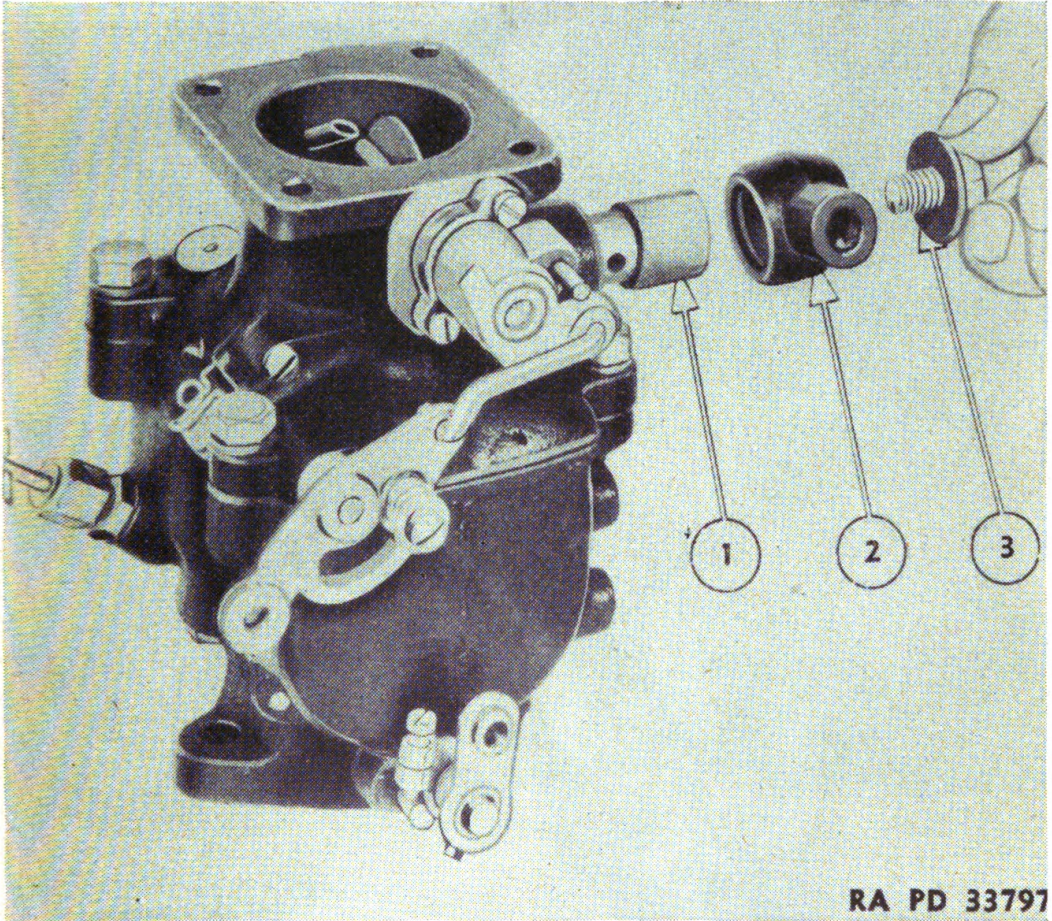

FIGURE 83.—Disassembly of inlet body.
77. Inlet body.—Remove inlet body (2) (fig. 83) and screen (1) by taking out stud (3). Clean screen and inspect solder joint to see that there are no cracks.